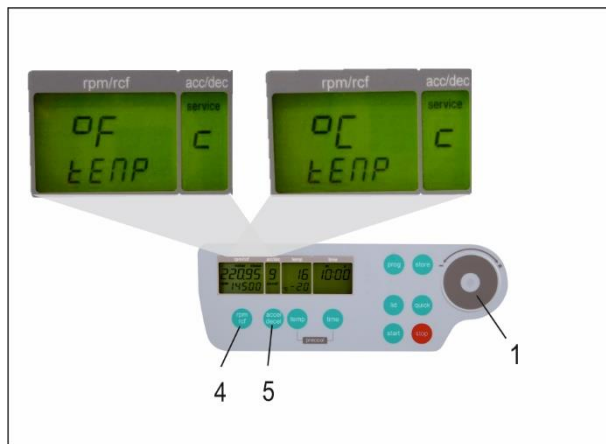

Figure 7
Proceed as illustrated, under point 1.8.1, to enter this program mode, press the key "accel/decel" (5). In the display, "accel/decel" (A-2) appears the word, "service". Select the letter, "C", with the control field (1). As a result, appearing in the display, "rpm/rcf" (A-1) are the words, "°C/temp". By pressing the key, "rpm/rcf" (4), the word "°C" flashes, this allows you to change the display into Fahrenheit "°F", with the control field (1), (see Figure 7).